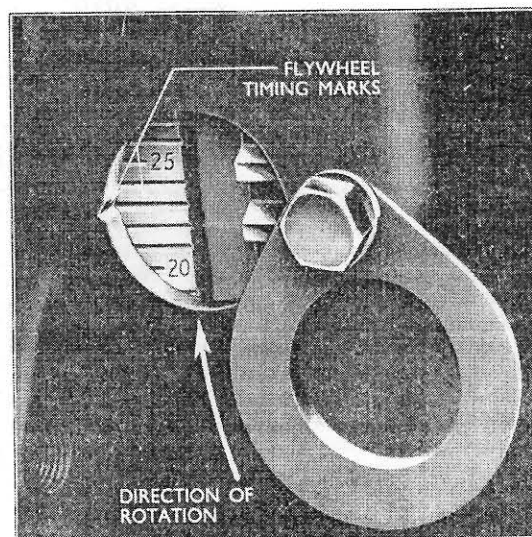

Fig. 5.
All engines after approximate engine No. 1308978 have graduated marks on the flywheel that can be lined up with a notch in the sump aperture to give the correct degree markings for injection pump timing (see Fig. 5).
1. Move the inspection cover on the right-hand side of the sump flywheel housing to one side and turn the engine until with No. 1 piston on its compression stroke (this can be checked by removing the oil filler cap and observing the operation of the valves), the correct degree marking for the type of engine is in line with the index notch on the side of the inspection aperture (see Fig. 5).